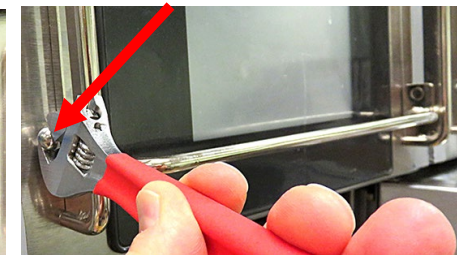

Figure 77
77. Reattach the guard rails removed in steps 13 & 44 (see Figure 77).